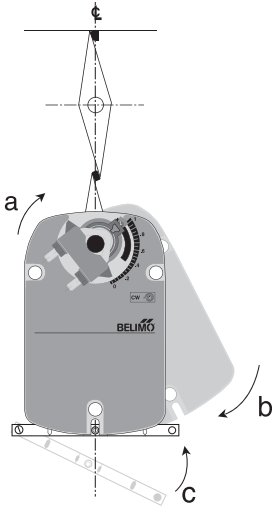

FIGURE 25 Standard mounting of optional motorized exhaust actuator
Confirm the damper is now fully closed (position a in **FIGURE 25**), but the actuator is 5° from fully closed. This is called “pre-loading” the actuator. When the actuator is powered and sent to the closed position it will put its full torque on the shaft compressing the edge and blade seals. The actuator is electronically protected from overload and will not be damaged.
- 5) Rotate the actuator to apply pressure to the damper seals (see **B** in **FIGURE 25**) and re-engage the anti-rotation strap (see **C** in **FIGURE 25**).